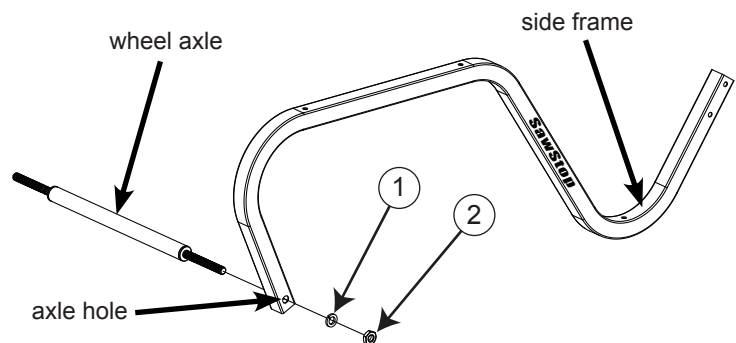

Fig. 2
2. Insert one end of the wheel axle through the axle hole in one side frame. Use one $\frac{5}{8}$ lock washer and one $\frac{5}{8}$ inch hex jam nut to secure the axle to the frame, as shown in Fig. 2. Fully tighten the nut using either a 1 inch wrench or an adjustable wrench.